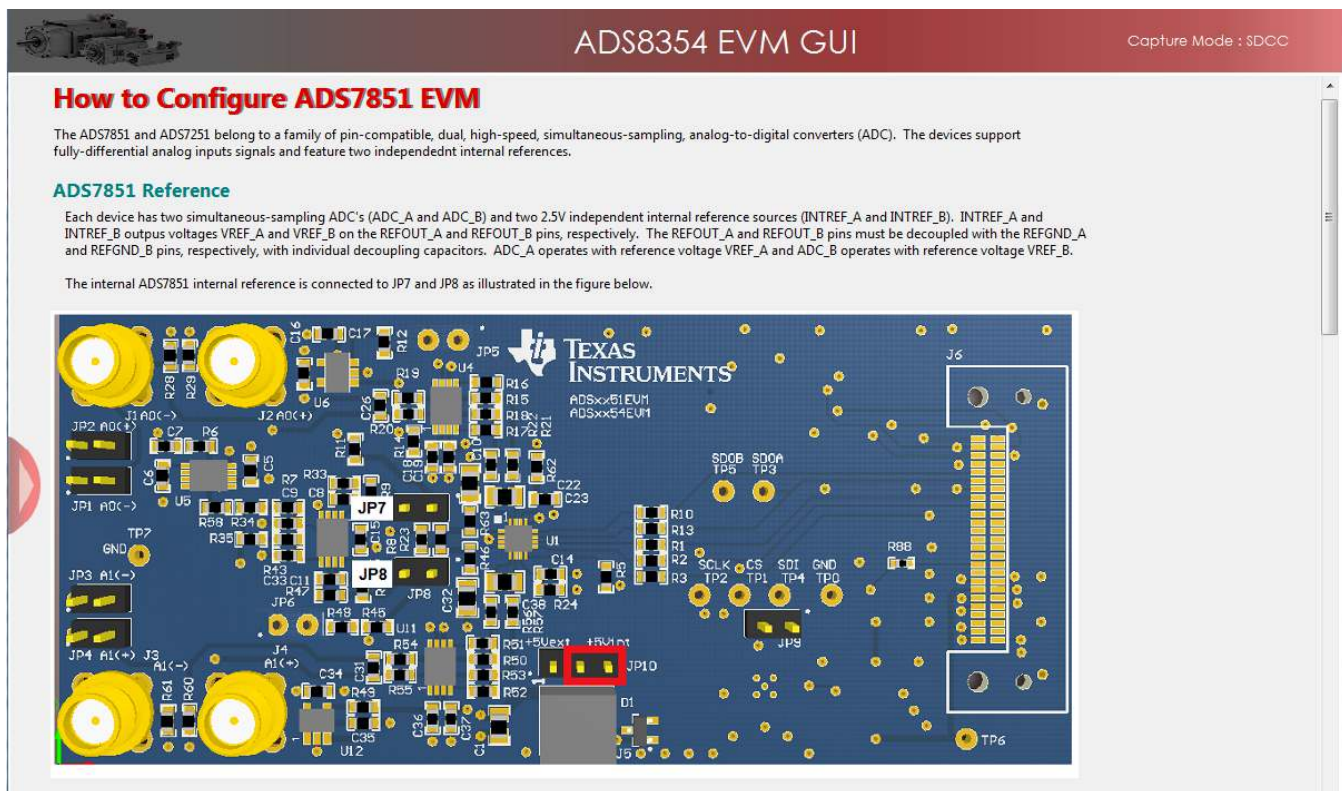

Figure 16. *ADS7851EVM Settings* Page
2. The ADS7851 device incorporates two internal individual 2.5-V reference sources. The reference sources generate voltages V_{ref_A} and V_{ref_B} on terminals REFOUT_A and REFOUT_B, respectively. The reference output voltages V_{ref_A} and V_{ref_B} are available on jumpers JP7 and JP8. Figure 16 shows the *ADS7851EVM Settings* page of the GUI.